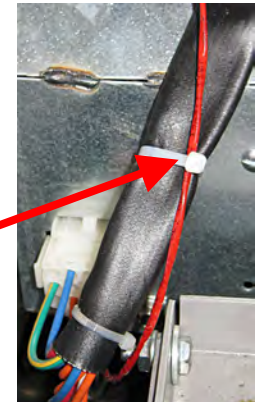

Figure 11
20. Use wire ties to secure the harness (see Figure 11).